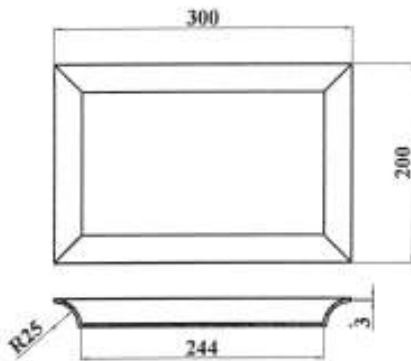

Fig. 8: Injection moulding job
- c) For the component shown in fig. 8 a single impression injection mould is required. Find out the amount of cooling water to be circulated and cooling channel size.